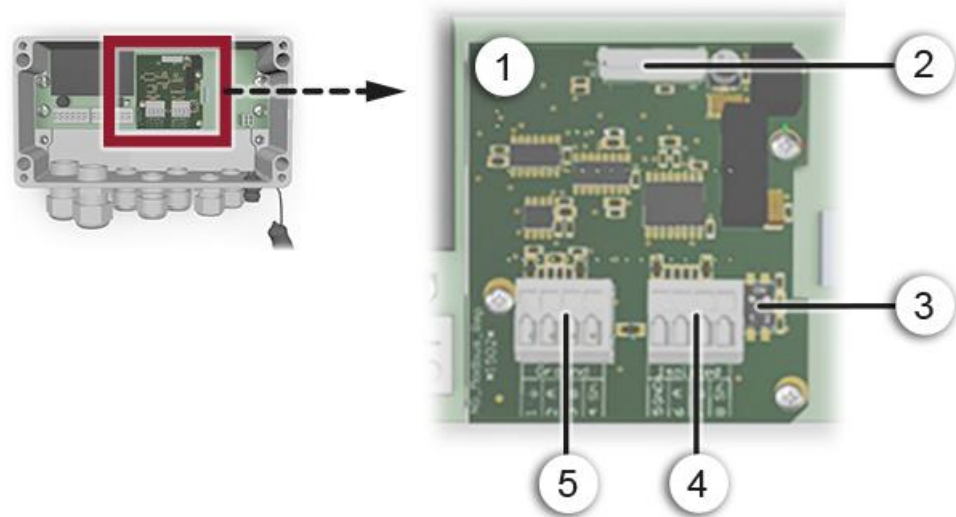

Figure 14: Overview of the Modbus RTU module in the SIPOINT 2
- If the photometer is used as a terminal device, DIL switch S2/1 must be switched ON on the connection module (Figure 14, pos. 3).